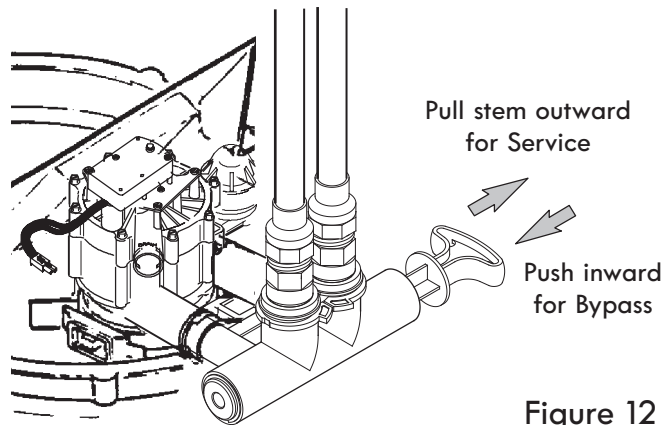
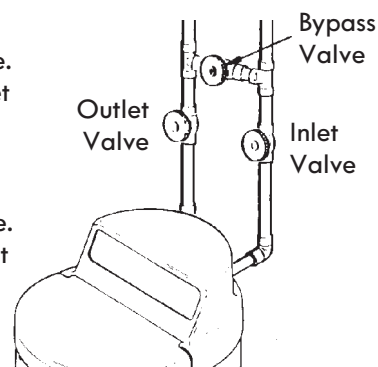

Figure 12
Figure 13
2. Place bypass valve(s) in "bypass" position (see Figures 12 & 13). On a single valve, slide the stem inward to bypass. On a 3-valve bypass, close the inlet and outlet valves and open the bypass valve.
If you installed a 3-valve bypass system (Fig. 13), electrical continuity will be maintained. If you installed the non-metallic bypass valve (Fig. 12), restore the ground as follows: